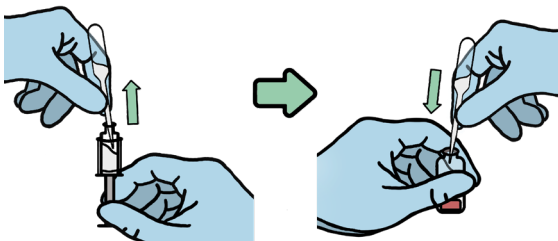

Figure 3. Performance of Step 3 Transfer.
3. Using the pipette, transfer the **entire liquid contents** of the **Diluent Vial** into the paired **Sample Vial** (Figure 3).